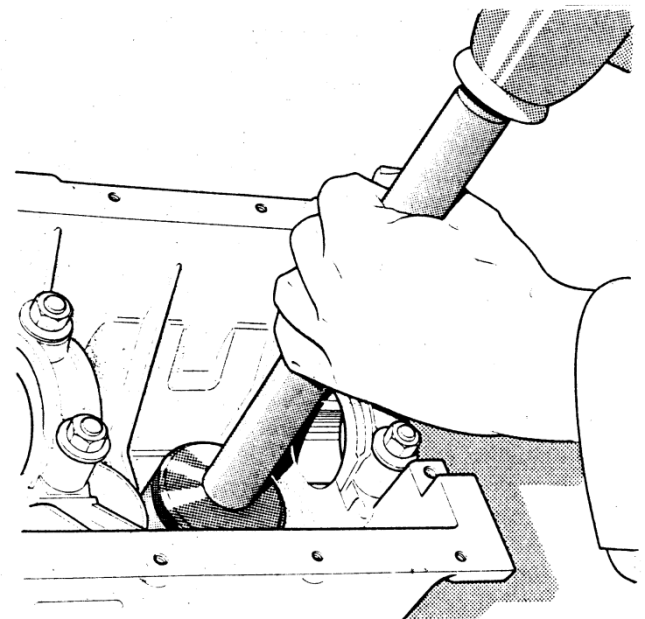

Figure 26 Removing cylinder liners
1. Extract the four liners from the cylinder block using a tool similar to that shown in **Figure 26**.